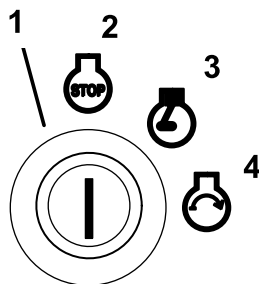

Figure 12
6. Turn the ignition key clockwise to the run position (Figure 12).
9. Turn the key to the start position and the glow plug indicator light will come back on. When the engine starts, release the key (Figure 12).
2. Turn the ignition key clockwise to the run position (Figure 12).
- Turn the ignition key to the off position (Figure 12). Wait for all moving parts to stop before leaving the operating position.